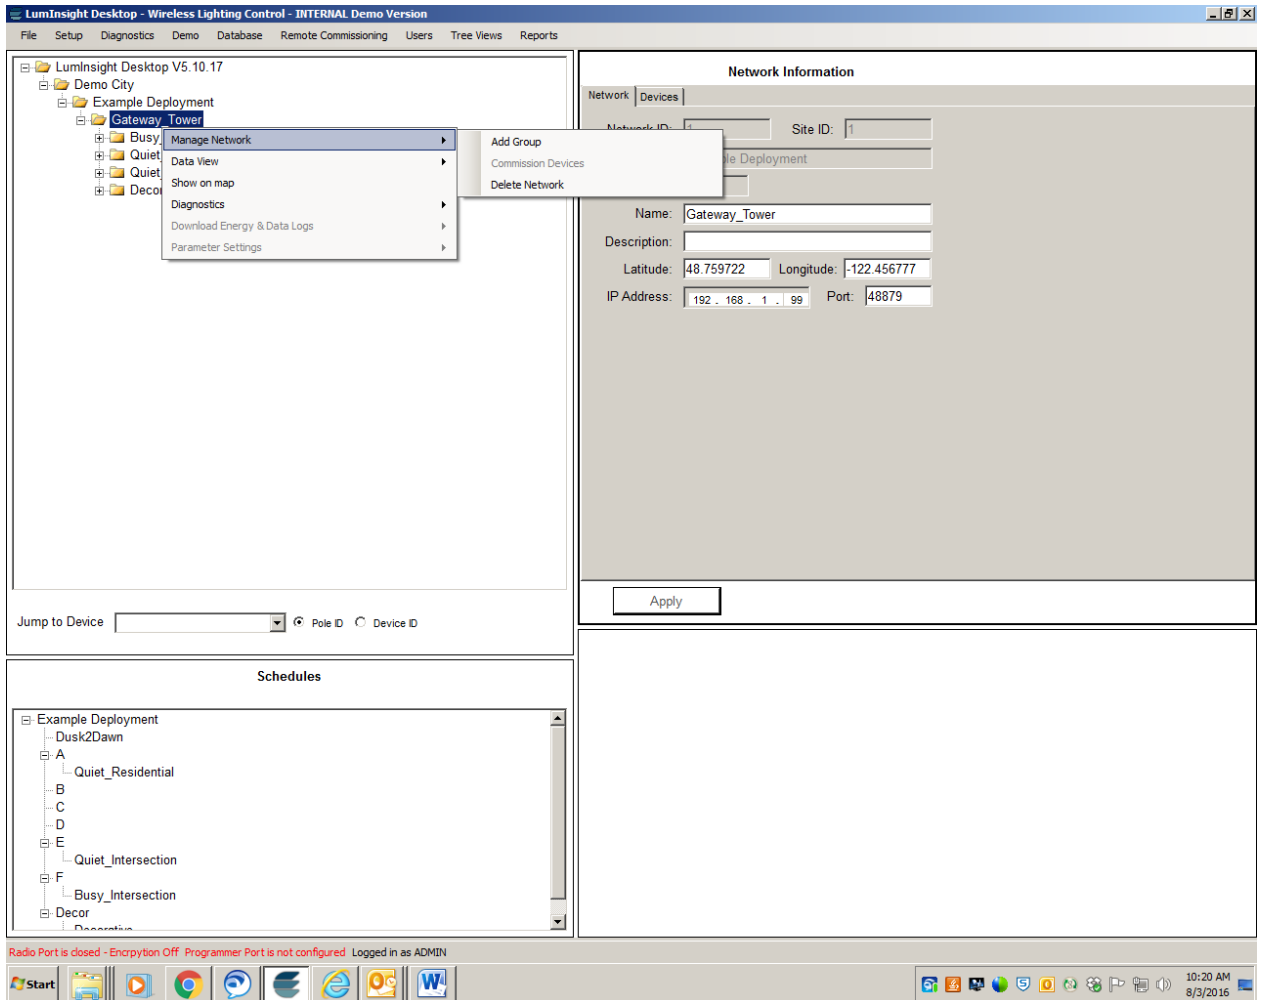

Figure 28. Add Group
1. Right click on the Network Level. Choose **Manage Network**. Choose **Add Group**. This is shown in Figure 28.